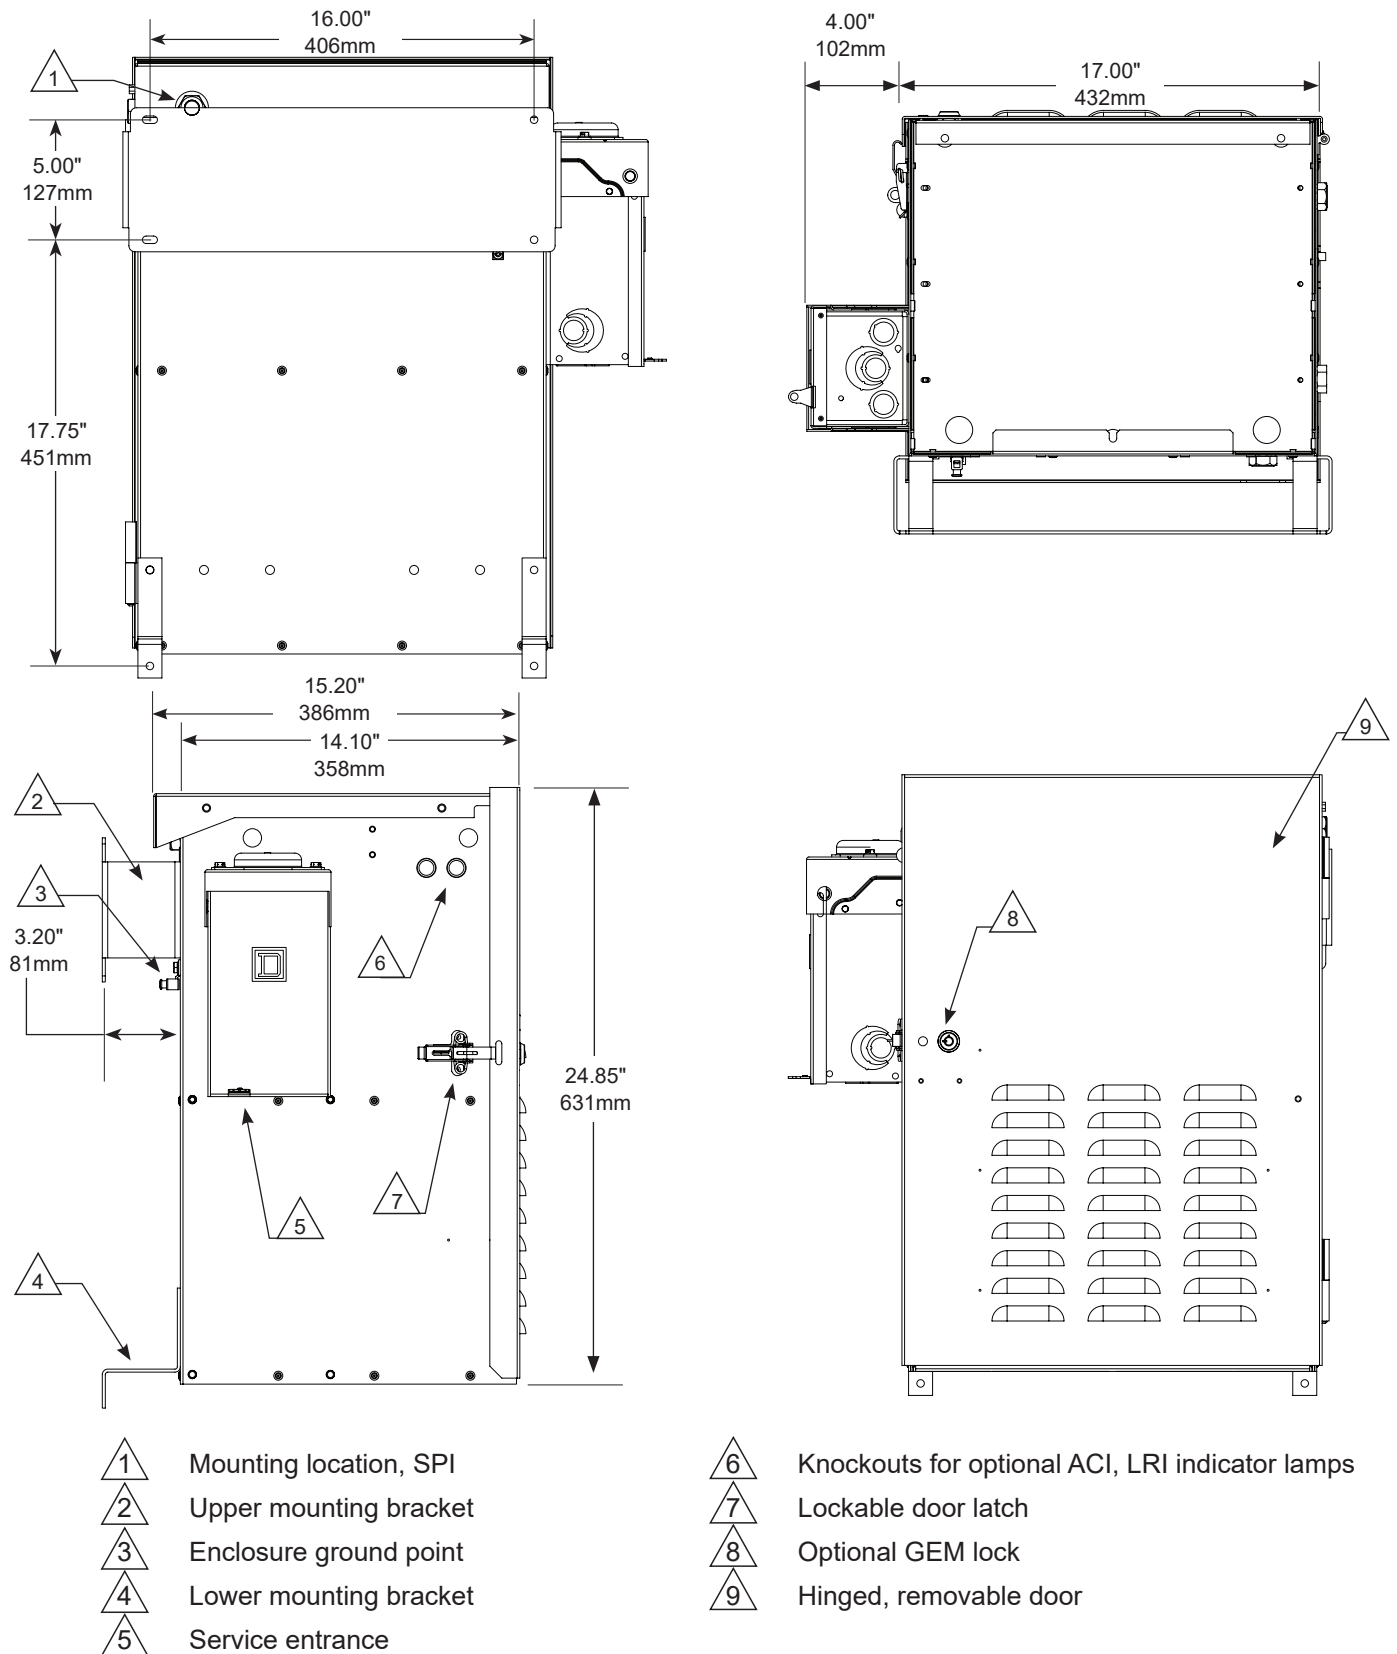

Fig. 7-10, Node Power Supply Enclosure Wall-mount Dimensions
2. Use stud finder to locate centers of two studs and mark. (See Fig. 7-10)